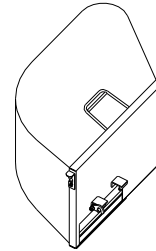

FIG 2
- Grass catcher assembly (2832200): 80L, see FIG 2